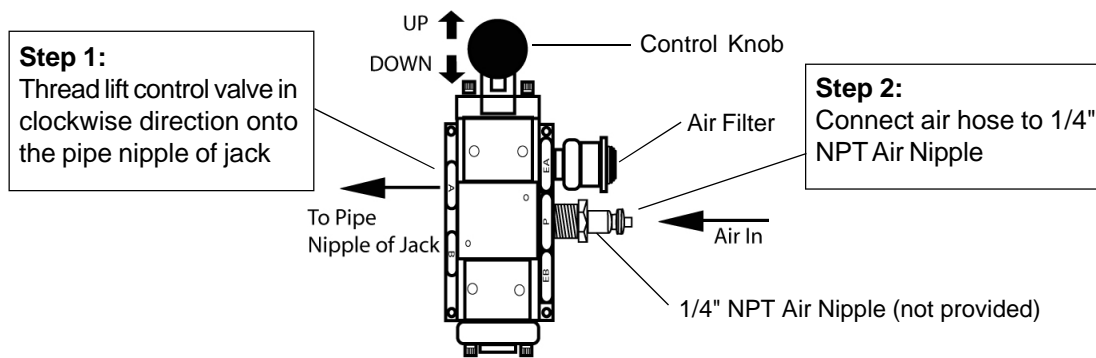

Figure 1. Lift Control Valve Illustration
1. Verify that the product and the application are compatible, if in doubt call Hein-Werner Technical Service (816)891-6390.
7. Connect lift control valve as shown in Figure 1. Connect air nipple to air input port before connecting air hose.
2. Connect 1/4" NPT air nipple and air hose to lift control valve air inlet port. (See Figure 1 on page 3)